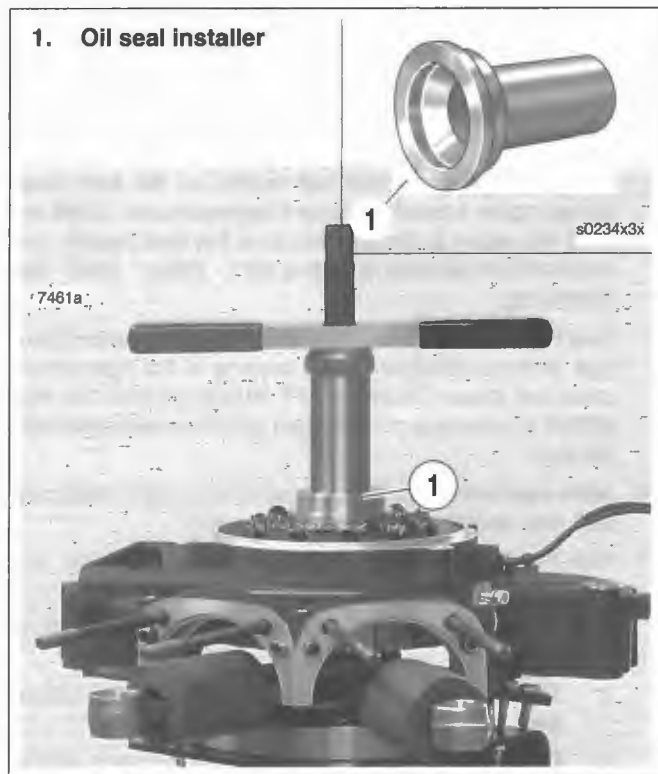

Figure 3-73. Sprocket Shaft Oil Seal Installer (Part No. HD-39361-A)
14. See Figure 3-73. Install **new** oil seal into bearing bore. Obtain pilot adapter, pilot shaft, short collar, Nice bearing, large flat washer and handle from SPROCKET SHAFT BEARING TOOL (Part No. HD-97225-55C).
- f. Set SPROCKET SHAFT OIL SEAL INSTALLER (1) (Part No. HD-39361-B) over pilot until it contacts oil seal.